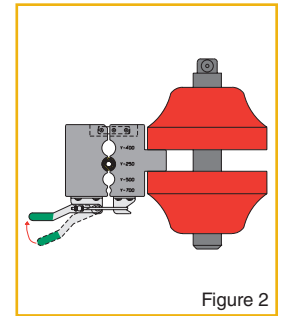

Figure 2
3. Pull the lever to close the HAC (Figure 2). **See Reusable or Permanent Fitting Installation Instructions.**